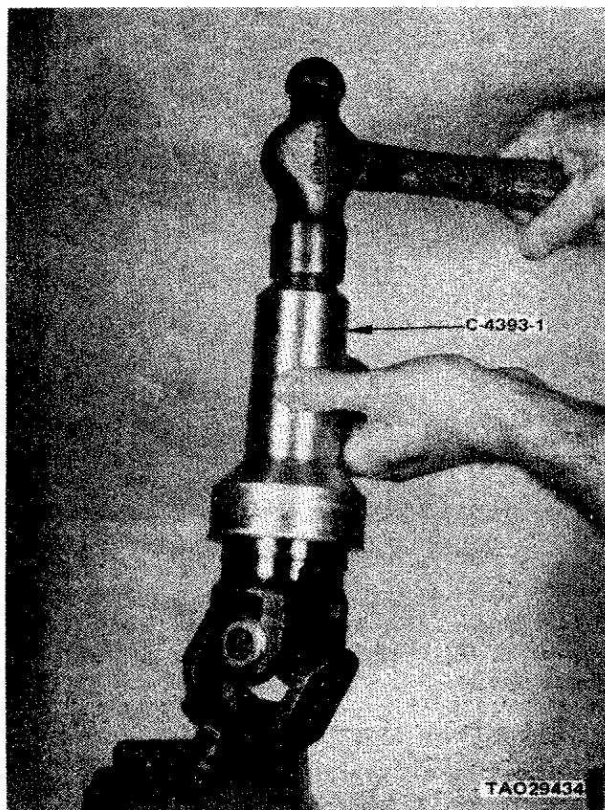

Figure 2-62.2. Slinger Installation.
(1) Apply RTV (silicone) sealer to the seal surface of the axle shaft.
(2) Install the seal slinger on the outer axle shaft using tool C-4398-1, as shown in figure 2-62.2.